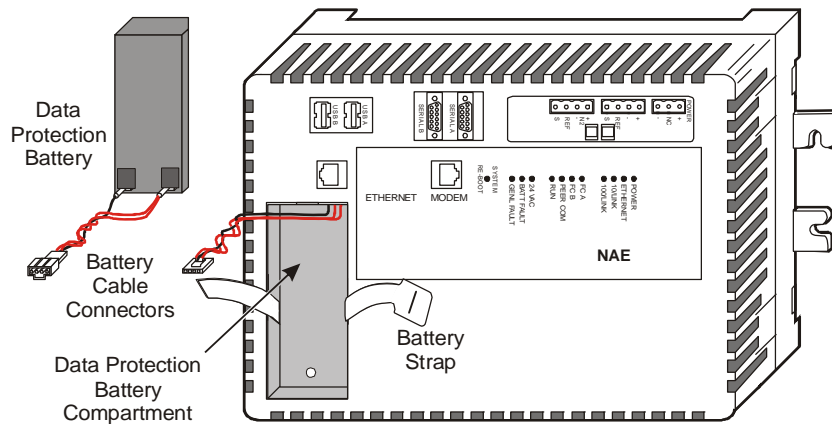

Figure 8: NAE55 and NAE55 Data Protection Battery
2. Carefully plug the NAE55 battery connector from the battery compartment into the connector on the battery cable (Figure 8).
3. Place the battery into the compartment (Figure 8).
4. Slide one end of the battery strap into the hole in the other strap (Figure 8), fasten the hook, and loop the strap tightly around the battery to minimize battery movement.